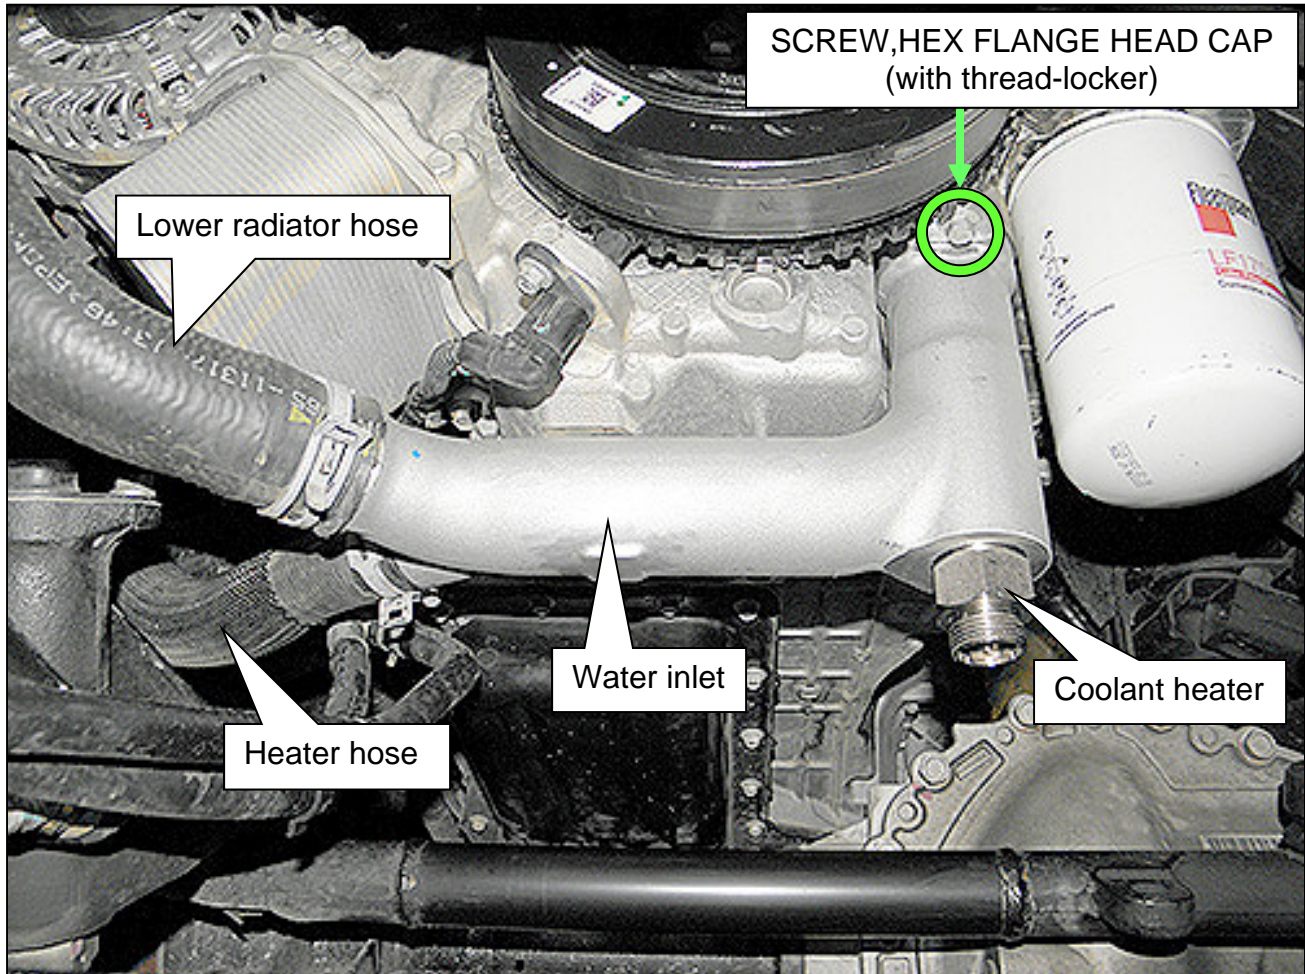

Figure 2
5. Install new water inlet in the reverse order that the original was removed (Figure 2).
- The bolt with the thread-locker (SCREW,HEX FLANGE HEAD CAP) must be used in the location shown in Figure 2.
6. Install a new coolant heater into the bottom of the water inlet (see Figure 2).